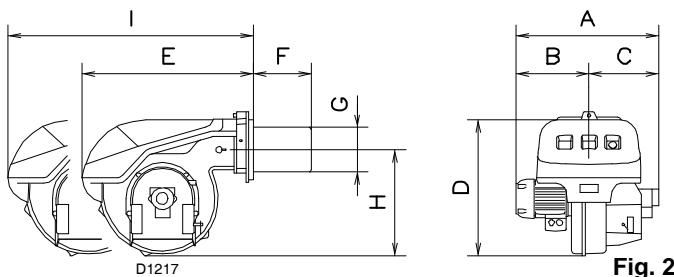

Fig. 2
4.3.2 Max. dimensions (Fig. 2) - approximate measurements
The maximum dimensions of the burner are given in (Fig. 2).